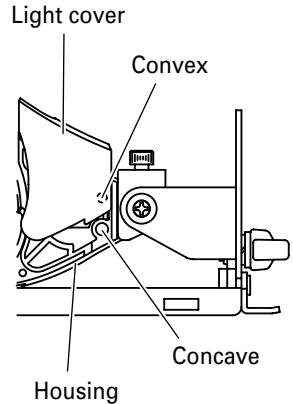

Fig. 19 <Side View>
- (1) Remove the convex part of the light cover from the concave part of the housing, and then pull out the light cover in the arrow-marked direction as shown in Fig. 19.